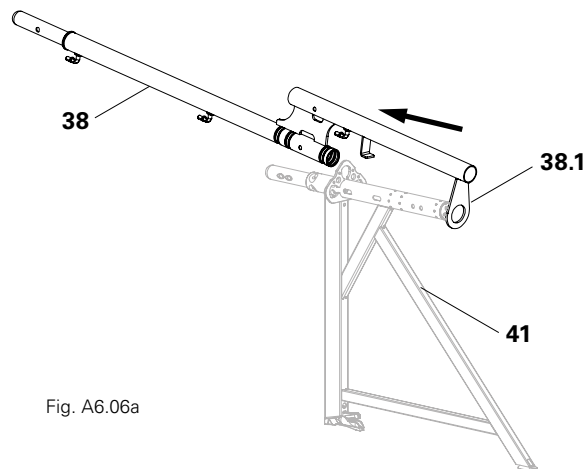

Fig. A6.06a
1. Slide the loop (**38.1**) of the Protection Wall Post EPS (**38**) onto the lower tube end of the console bracket (**41**). (Fig. A6.06a)